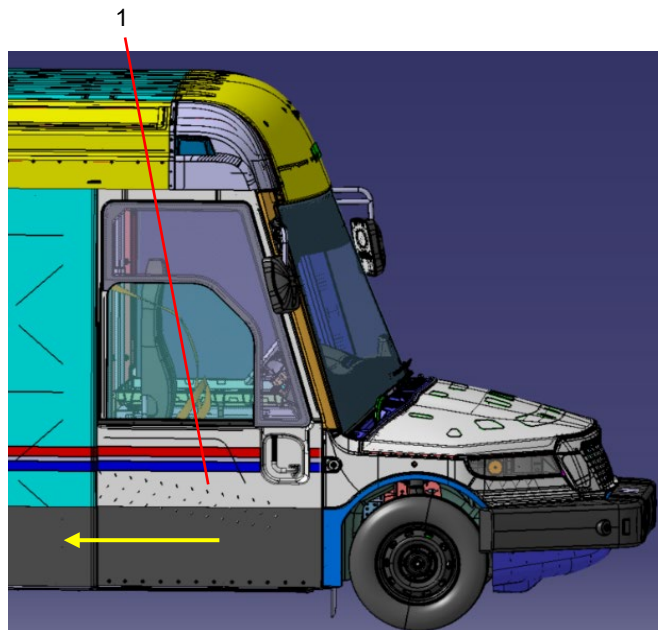

Figure 1. Rollover Warning Label Removal.
- 3) Position curbside door (Figure 1, Item 1) in the “Open” position.